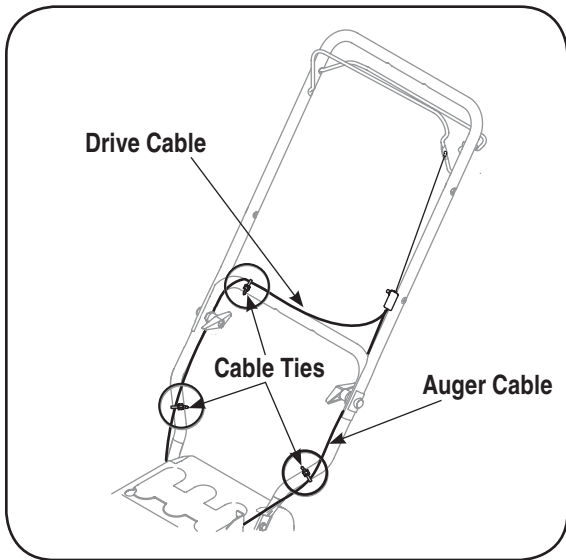

Figure 4
2. Slide one of the loosely fitted cable ties from the right side of the lower handle up to the cross member of the lower handle. Leave the second cable tie in place on the right side of the lower handle. See Figure 4. for reference.
**NOTE:** Make sure that the drive cable is routed parallel to the left upper handle, then across the top of the lower handle and finally parallel to the right lower handle. See Figure 4.
6. Three cable ties have been used to loosely tie the two control cables to the lower handle. Two of these cable ties are on each arm, and third on the top cross bar of the lower handle. Tighten these cable ties to secure the cable to the lower handle. See Figure 4.